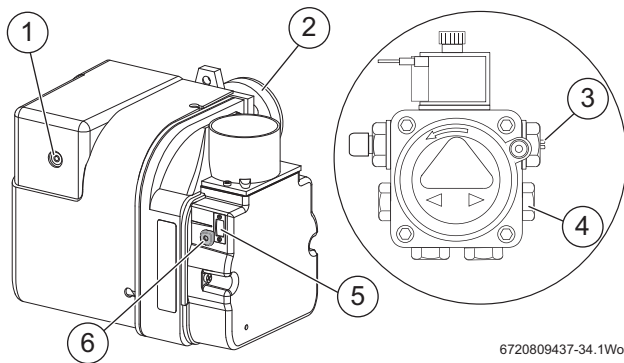

Fig. 55
- ▶ Check for after-sputtering from the nozzle, indicated by oil saturation on the combustion head [2] figure 55.
- ▶ Remove the combustion head [2] figure 55 and electrodes, hold the burner vertically, unscrew the nozzle and fill the nozzle holder with kerosene.
- ▶ Refit nozzle, electrodes, combustion head [2] figure 55 and burner.
- ▶ Check the CO₂ levels and adjust the air shutter [6] figure 55 setting according to the table opposite.
If the flue gas temperature is too high and the baffles are correctly fitted, then reduce the oil pump pressure [3] fig. 55, 5-10 p.s.i. to compensate for nozzle variations. If the pump pressure has been changed, the CO₂ levels must be rechecked and air shutter adjusted if necessary.
- ▶ Refit the blanking plug [4] figure 55.
- ▶ Recheck the CO₂ levels and if required, adjust the air shutter setting [6] figure 55 to obtain the correct CO₂ level.